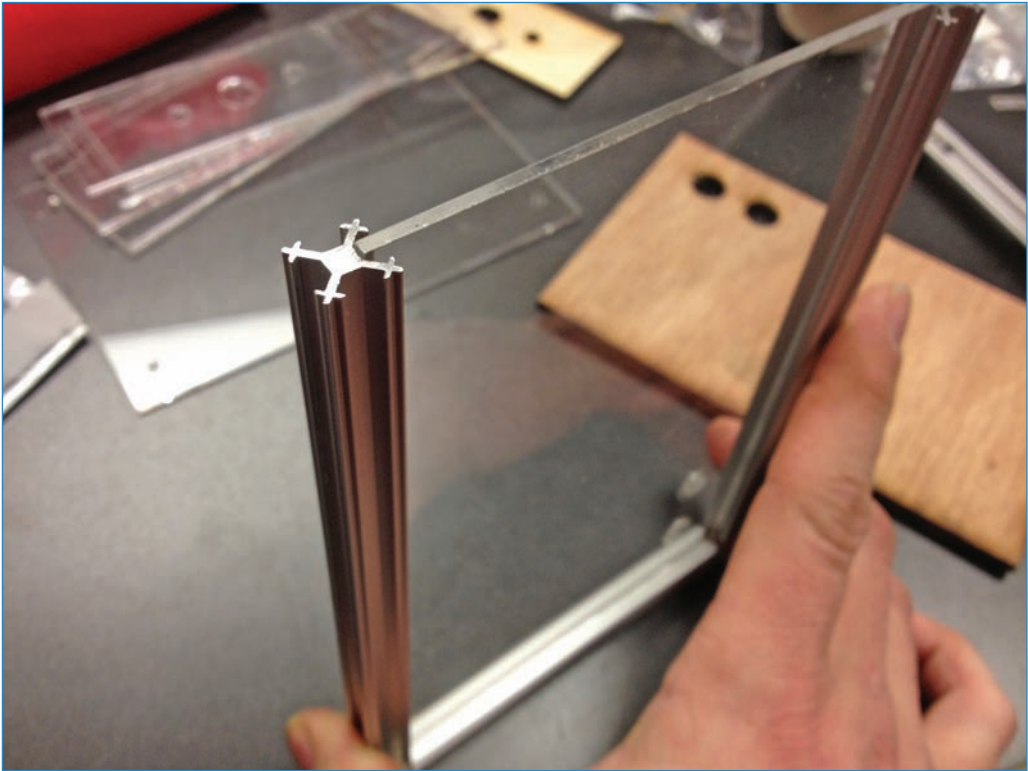

FIGURE 3.30 Slide the panels into the beams' grooves.
4. Cut out some panels for the sides. I laser-cut mine out of acrylic (see Figure 3.30) but this isn't absolutely necessary; you could cut them out of wood with a regular saw just fine. Make the panels the same size as the beams but add 4mm–6mm to the length and width of the panel if you're using 2.5mm or thinner stock and 2mm–3mm if you're using 5mm stock, the maximum thickness. If they're a bit loose and rattle, stick a piece of rubber band in there to pad it.